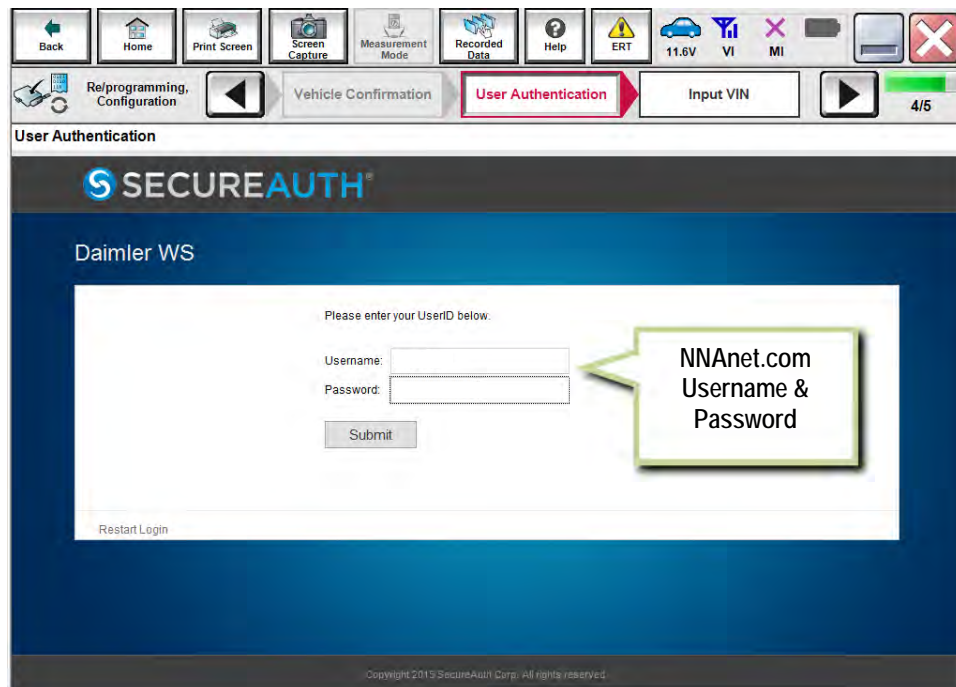

Figure 7
- The screen in Figure 6 will only appear during the first login on a CONSULT PC. Future logins with same CONSULT PC will display the screen in Figure 7 only.